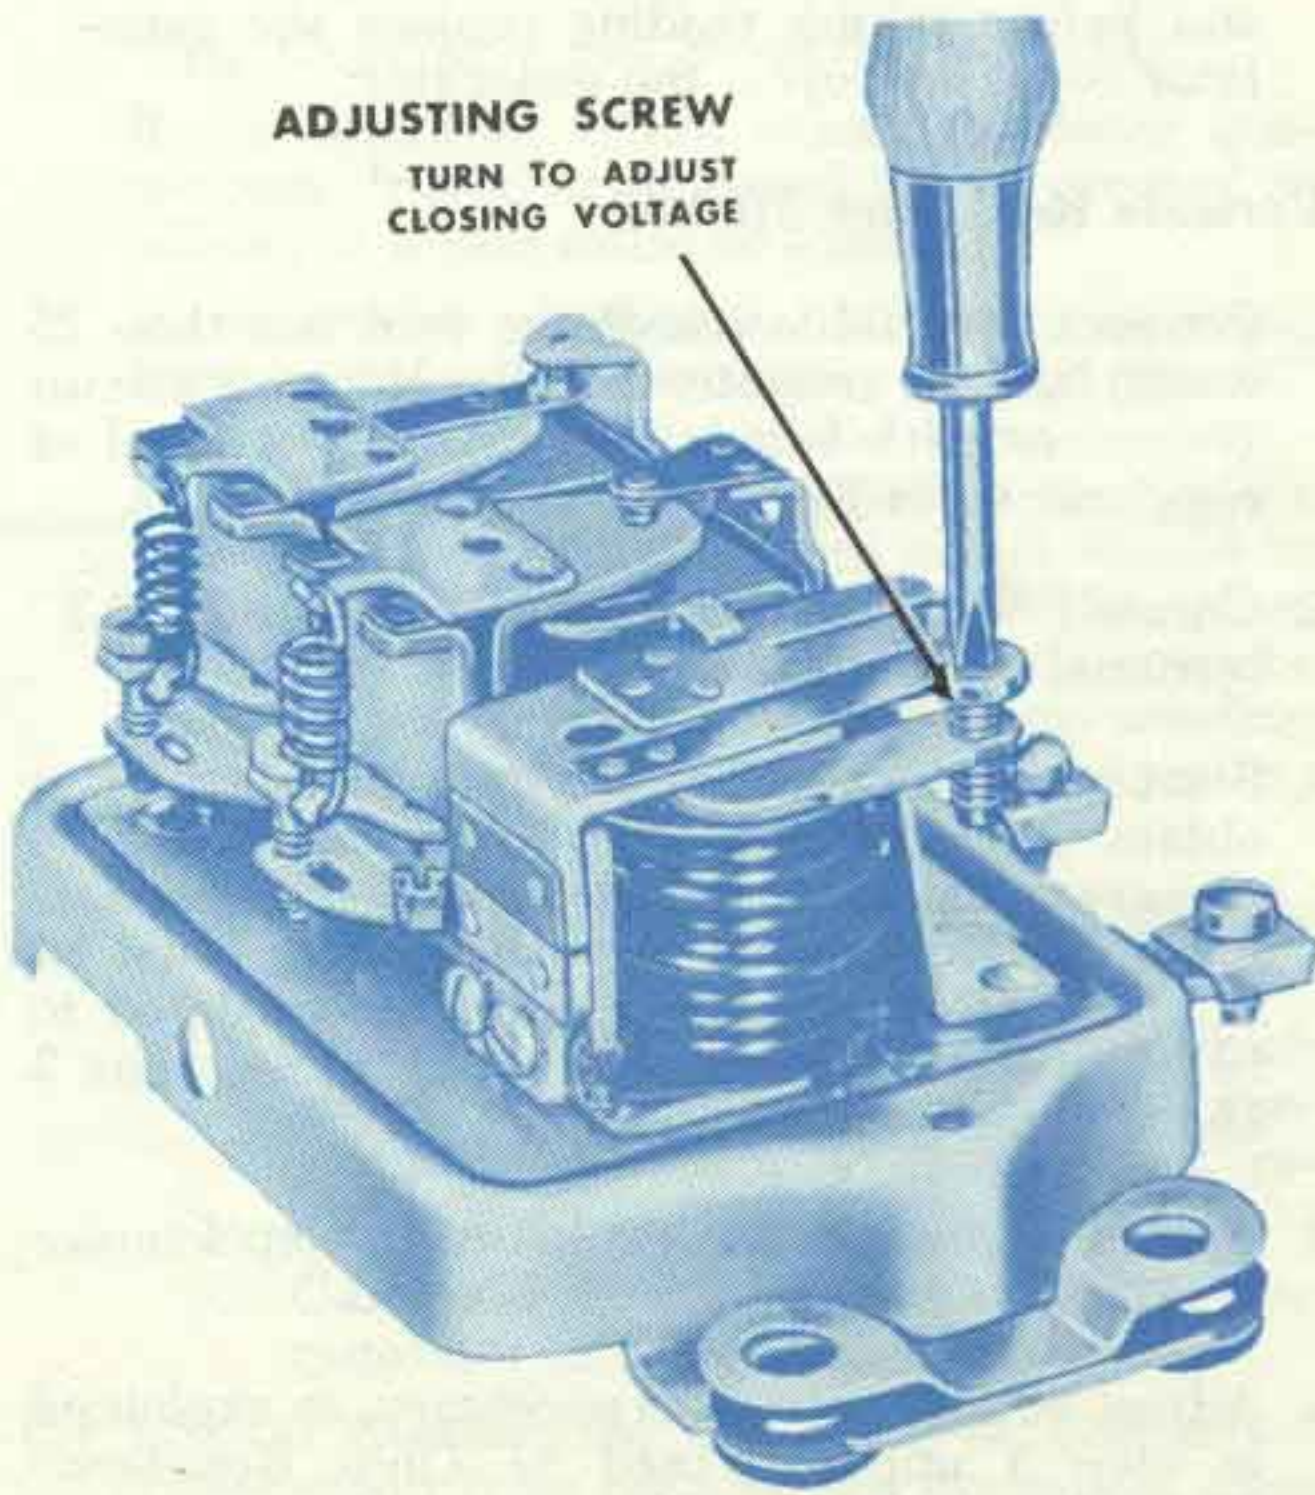

Figure 11—Adjustment of cutout relay closing voltage.
3. Adjust closing voltage (either method) by turning adjusting screw (Fig. 11). Turn screw clockwise to increase setting and counterclockwise to decrease setting.